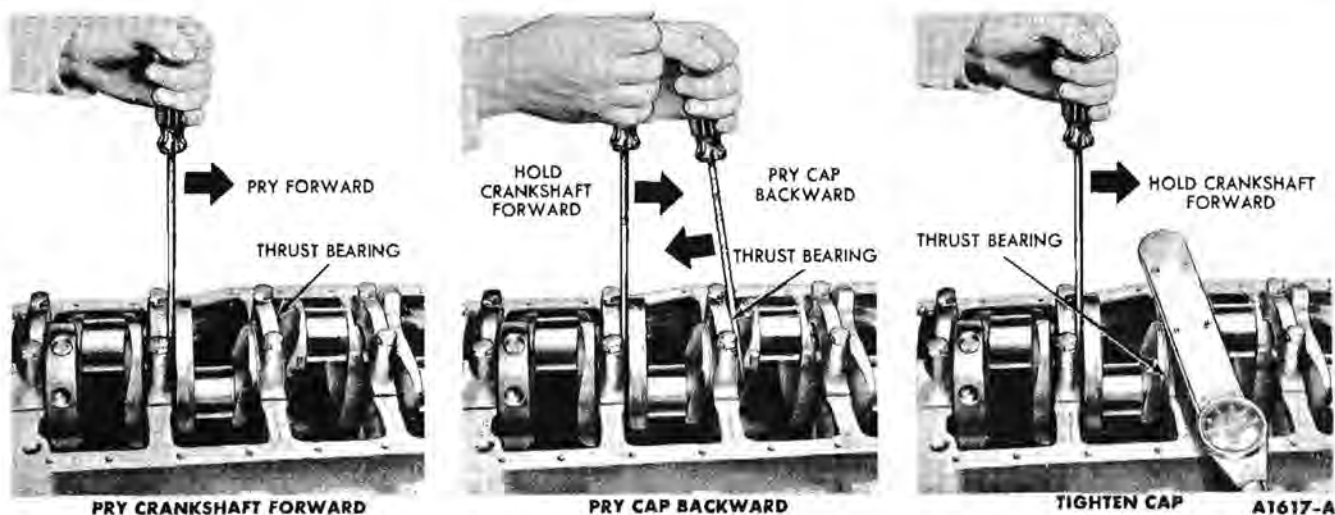

FIG. 59—Thrust Bearing Alignment
14. Pry the crankshaft forward against the thrust surface of the upper half of the bearing (Fig. 59).
and pry the thrust bearing cap to the rear (Fig. 59). This will align the thrust surfaces of both halves of the bearing.
16. Retain the forward pressure on the crankshaft. Tighten the cap bolts to specifications (Fig. 59).